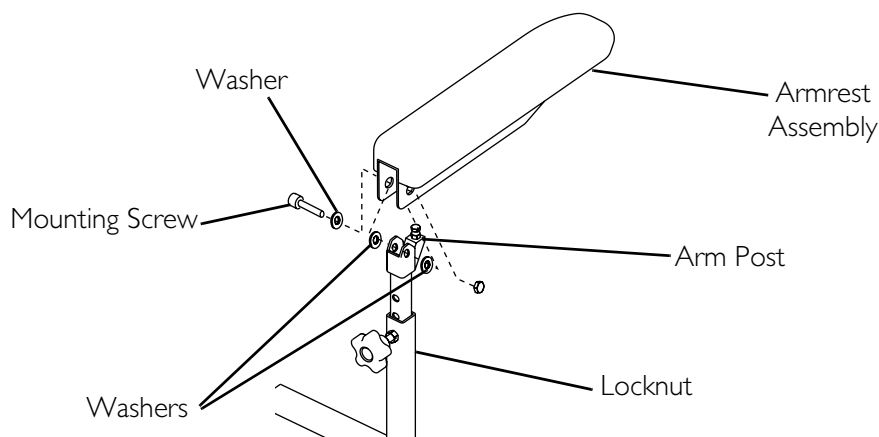

FIGURE 5.3 Replacing Van Seat Armrest Assembly
NOTE: For this procedure, refer to FIGURE 5.3.
3. Position the new armrest assembly on the armrest post and secure with the mounting screw, washers, and locknut. Refer to FIGURE 5.3 for correct hardware orientation.